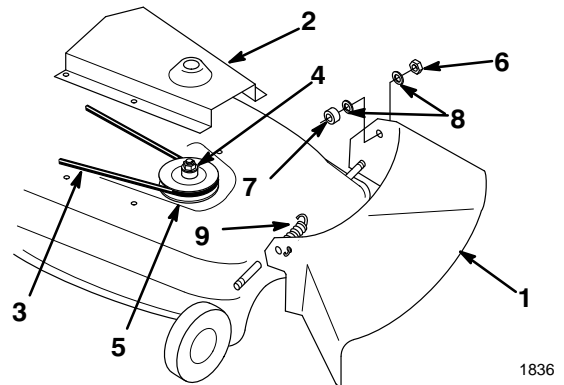

Figure 2
1. Remove the discharge chute from the mower (Fig. 2).
2. Remove the belt cover from the right side (Fig. 2).